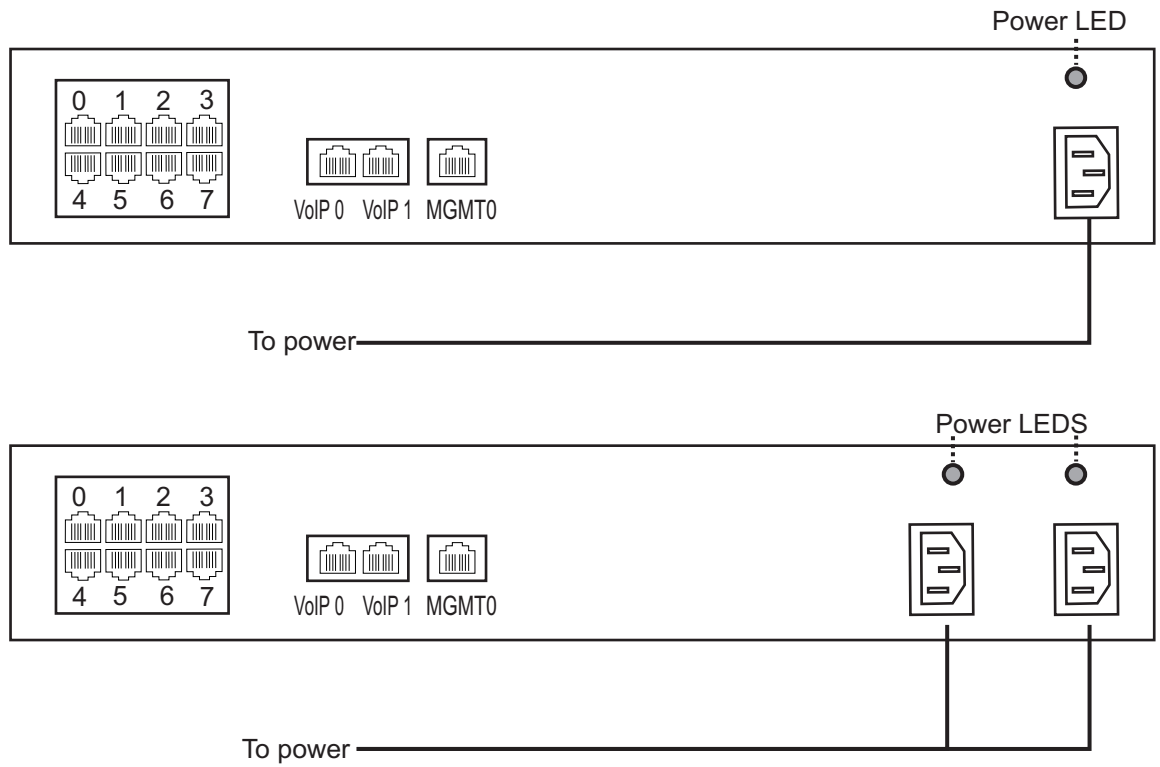

Figure 2.6 AC Power Connection
1. Connect one AC power cable between the AC connector of the TMG800 and an AC supply. See figure 2.6 on page 14. If the TMG800 features a second AC power connect, use an additional AC power cable to connect it to a power source.
**Note** If the TMG800 features a second power supply and it is not connected to an AC power source, the TMG800 will emit an audible alarm. To disable the alarm, make certain that each AC connector of the TMG800 is connected to AC power. See figure 2.6 on page 14.